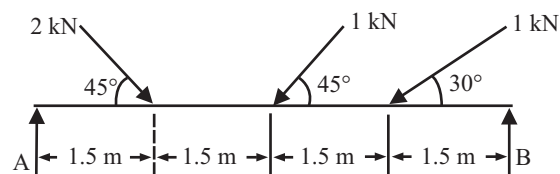

Fig 1
Q.1. A horizontal beam 6m long is loaded as shown in fig 1. Construct the shear force and bending moment diagrams.